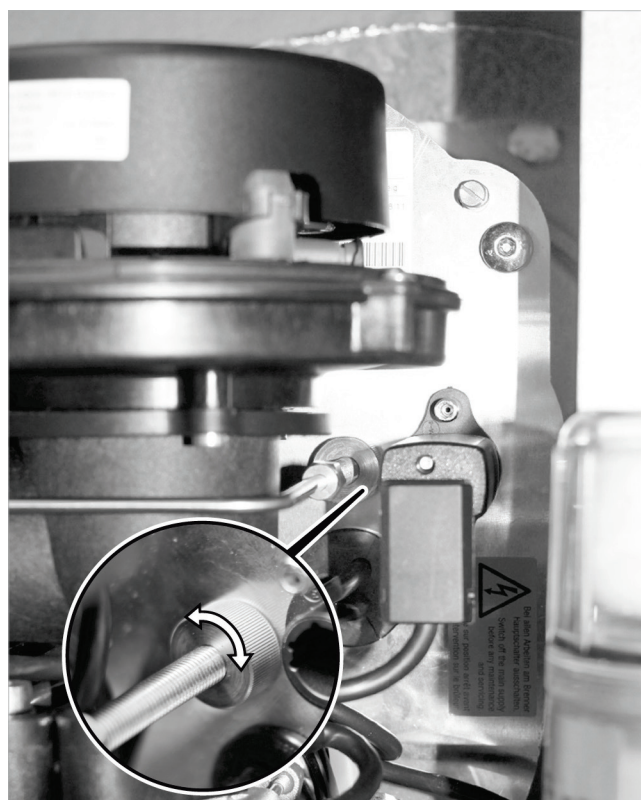

Fig. 151: Knurled nut (limit stop for oil pipe/nozzle fitting)
4. Turn the knurled nut for the nozzle fitting (see → fig. 151, p. 61) anticlockwise by approx. 2 turns (nozzle fitting is pulled "backwards").
1. A knurled nut is located in front of the burner base plate at the connection of the oil pipe and the nozzle fitting (→ fig. 151). You can use this to move the entire mixing unit forwards or backwards. The knurled nut can be adjusted up to a certain point (limit stop of the mixing unit in the flame tube). Adjust the knurled nut so that the mixing unit is touching the limit stop.